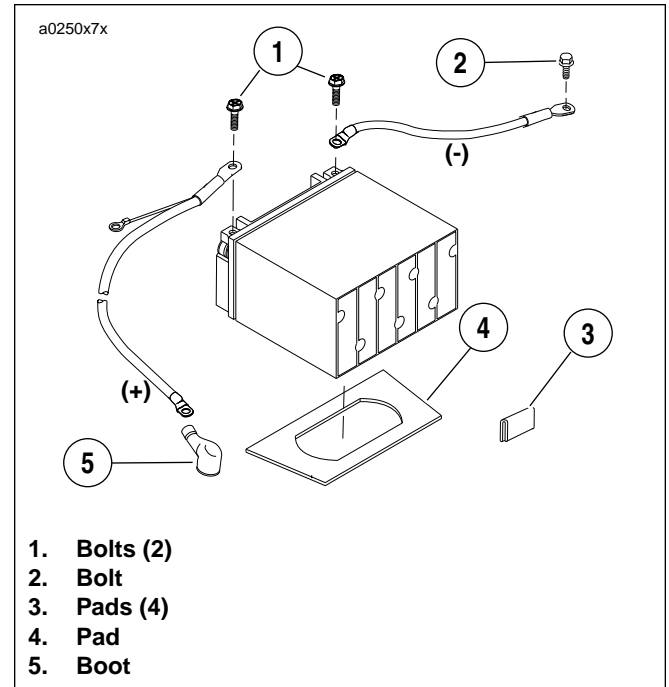

Figure 1-1. Battery Installation
2. See Figure 1-1. Insert bolt through battery positive cable (red) into threaded hole of battery positive (+) terminal. Tighten bolt to 72-96 in-lbs (8-11 Nm).
3. See Figure 1-1. Insert bolt through battery negative cable (black) into threaded hole of battery negative (-) terminal. Tighten bolt to 72-96 in-lbs (8-11 Nm).